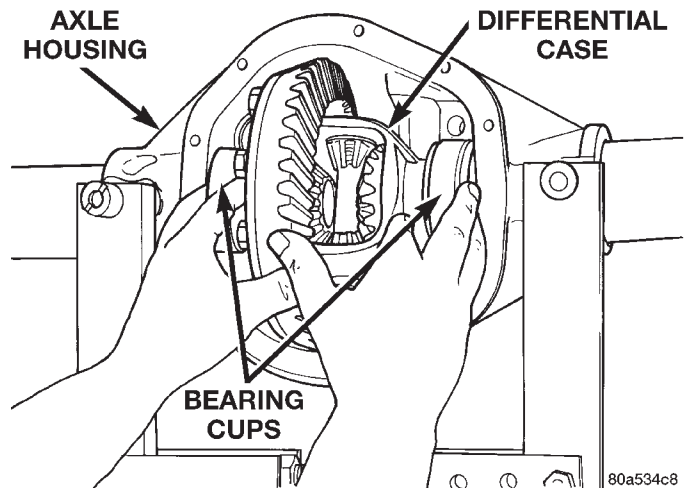

Fig. 27 Differential Case Removal
- (10) Remove the dial indicator.
- (11) While holding the differential case in position, remove the differential bearing cap bolts and caps.
- (12) Remove the differential from the housing. Ensure that the differential bearing cups remain in position on the differential bearings (Fig. 27).
- (13) Mark or tag the differential bearing cups to indicate which side of the differential they were removed from.
- (14) Retrieve differential case preload shims from axle housing. Mark or tag the differential case pre-